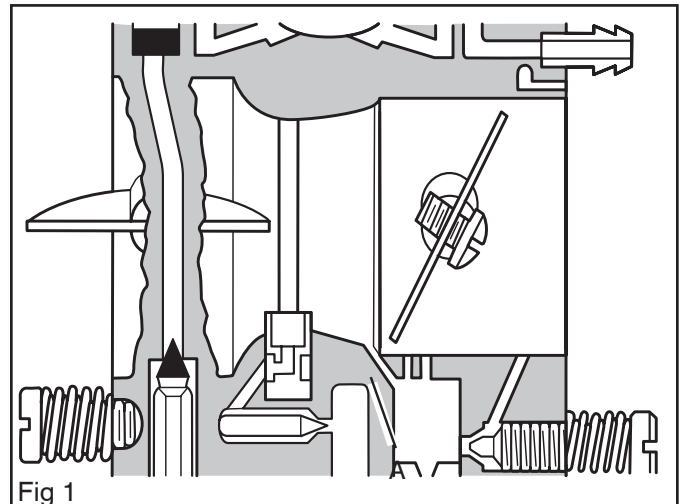

Fig 1
- The metering unit, A in fig. 1.